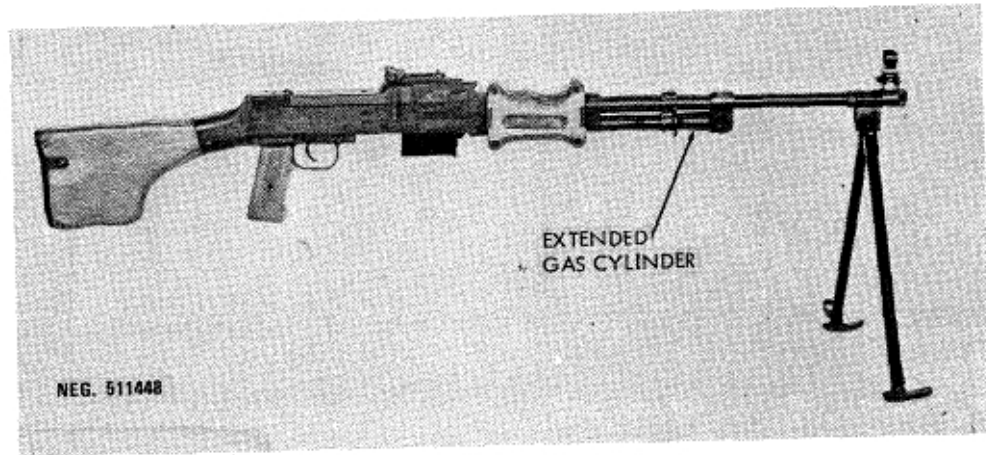

Figure 149. Soviet RPDM.
- (4) Fourth version: (RPDM) As for third version, but with longer gas cylinder, additional roller on piston slide, and buffer in butt (fig 149).
- (5) Fifth version: (PRC Type 56-1) As for fourth version, but with folding magazine bracket/dust cover and cleaning rod (sectional) carried in butt.